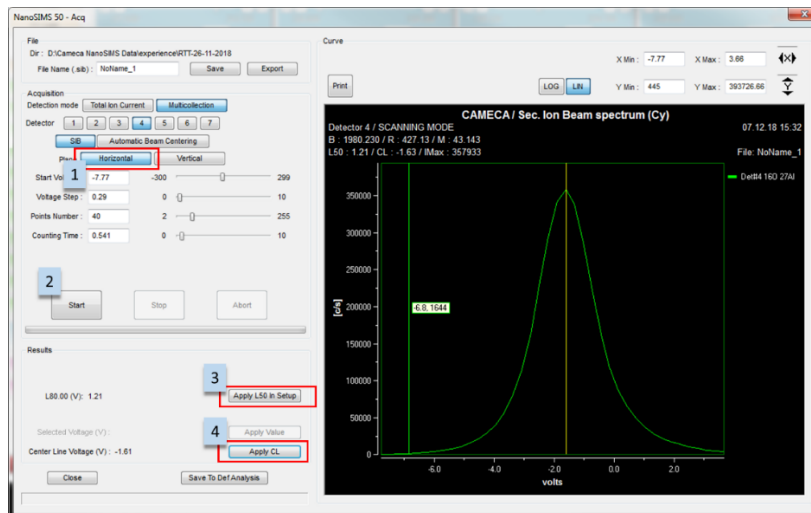

Figure 407: Cy centering (Secondary Ion Beam - horizontal)
step 1 (in Figure 407): Select **"Horizontal"** and